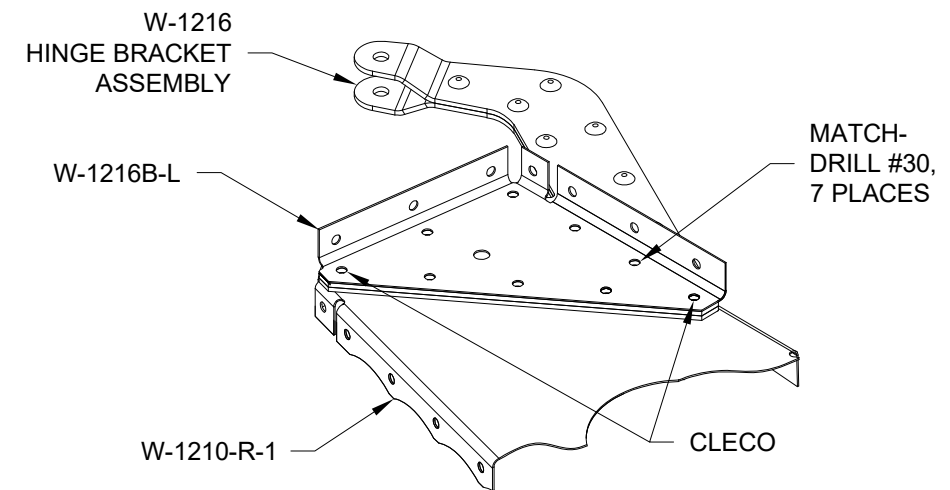

FIGURE 3: MATCH-DRILLING THE FLAPERON HINGE BRACKETS AND MAIN RIBS
Step 6: Select two of the W-1210-R-1 Main Ribs and cleco one of them to the W-1216 Hinge Bracket Assembly and W-1216B-L Hinge Rib. Match-Drill #30 as shown in Figure 3. Repeat for the second main rib. Remove clecos, flaperon hinge brackets, and hinge ribs. Deburr.
Step 7: Select one of the forward flange trimmed W-1210-L-1 Main Ribs and one of the unmodified left main ribs and cleco each to a W-1216 Hinge Bracket Assembly and W-1216B-R Hinge Rib. Match-Drill as shown in Figure 3. Remove clecos and Hinge Bracket Assemblies. Deburr.